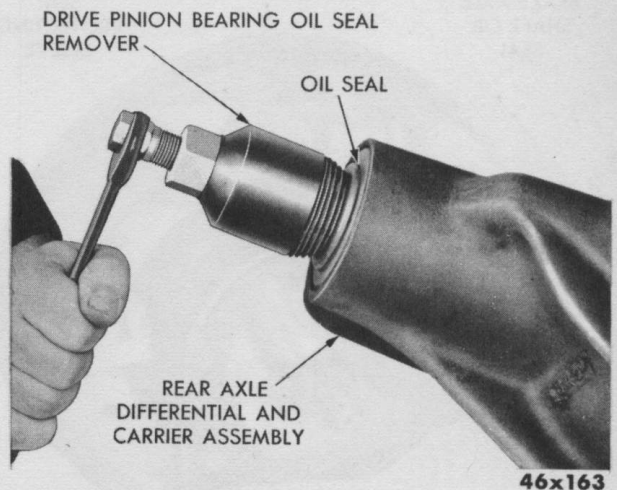

Fig. 30—Removing Drive Pinion Oil Seal From Carrier—Tool C-748
- (3) Remove drive pinion bearing oil seal (Fig. 30).